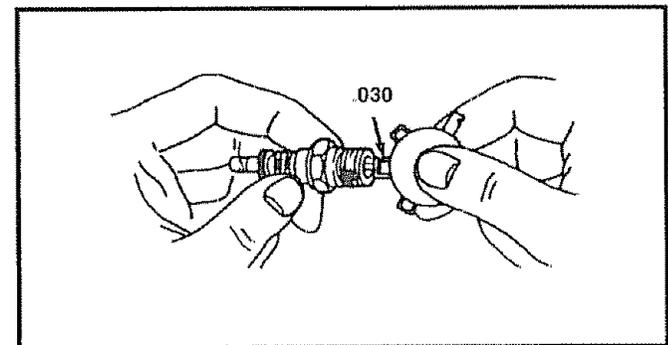

FIG. 18
- Set the gap between the electrodes of the new spark plug at .030 inch. Next, install the spark plug in the cylinder head. Tighten the plug to 18 to 20 foot pounds. If you do not use a torque wrench, tighten the plug firmly (See Fig. 18).